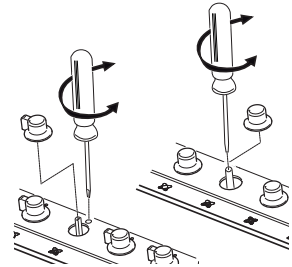

Fig. 8: adjustment of the minimum
2. Remove the gas tap knob and turn the adjustment screw [Fig. 8] inside or on the side of the tap rod (depending on the model), until a regular minimum flame is obtained.